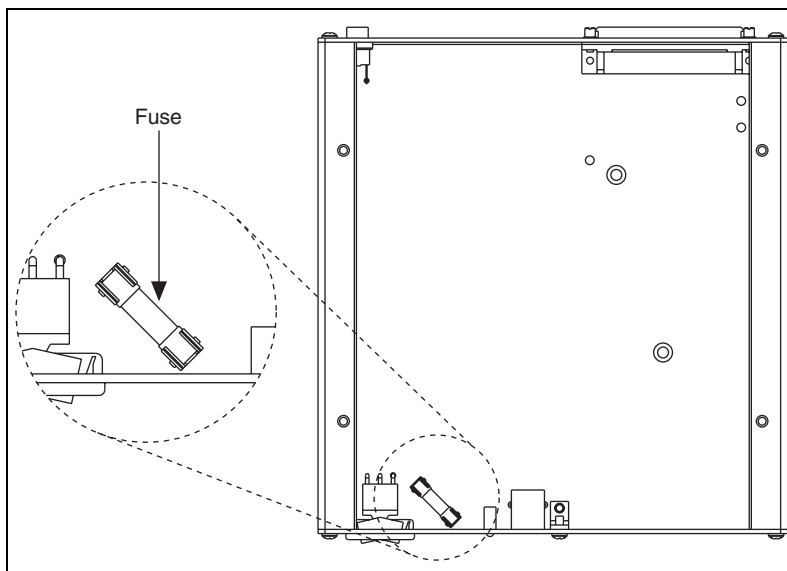

Figure A-12. USB-6251 Mass Termination Fuse Location
2. Replace the fuse while referring to Figure A-12 for the fuse location.